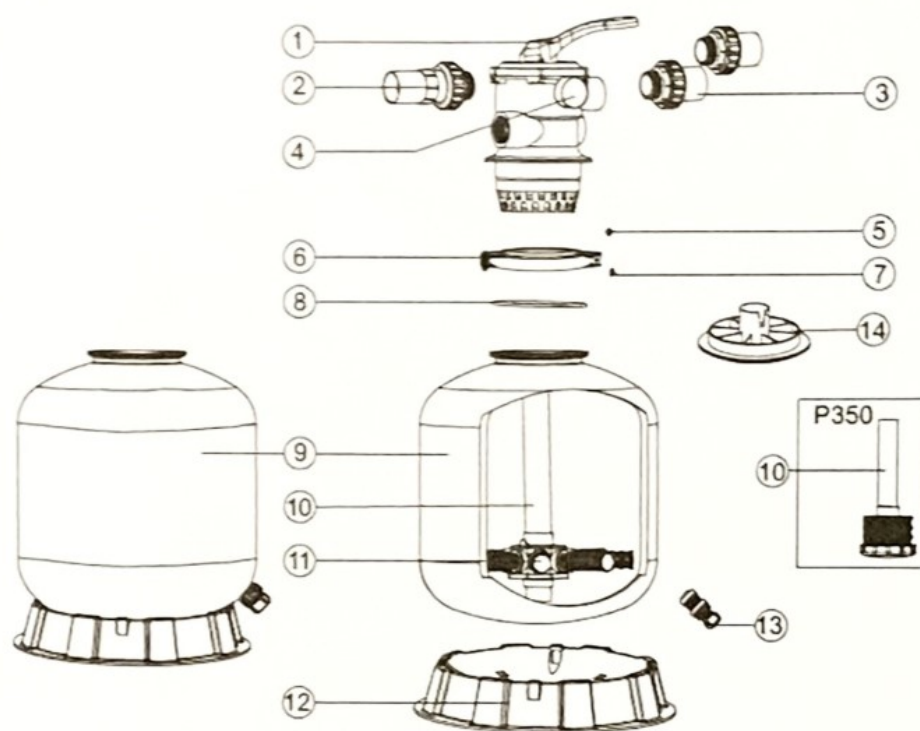

Fig. 2
- a) Insert the centre tube (10) in the vessel and install the drain tubes (11), if not factory-installed. Place the centre tube in the centre of the vessel bottom. Close the top hole in the tube with the lid (14) or a suitable end cap to prevent sand entering it. **Before filling the vessel with sand, make sure all the drain tubes (11) are firmly installed.**
- b) For better distribution of the filter sand, first fill about a third of the vessel with water. That will prevent excessive strain on the drain tubes when filling with sand. Before that, make sure the drain plug (13) is in place.
- d) Remove the lid (14) or end cap from the top opening.
- a) Clean the vessel flange. Take the valve (1), mount the gasket (8) on it, smear the gasket lightly with grease, and mount it on the vessel flange. Turn the valve so that the valve hole marked "PUMP" (P) faces the pump.
- b) Put the clamp (6) on the flange-valve joint. Make sure the clamp sits properly all around the joint and then tighten it with the pair of bolts (7) and nuts (5). Tighten both threaded joints symmetrically.
- c) Remove the plastic bolt from the side of the valve body and screw the pressure gauge (4) into the hole. Tighten the pressure gauge carefully by hand, without forcing it.
5. Connect the pump to the valve opening marked "PUMP" (P); connect the return nozzle that sends water back into the swimming pool to the valve opening marked "RETURN" (R); connect the pump suction end with the swimming pool skimmer (S); and connect the waste pipeline to the valve opening marked "WASTE" (W). See Figures 2 and 3. When installing the threaded joints, seal them with a sufficient quantity of Teflon tape.
7. To prevent any water leakage from the vessel, make sure the drain plug (13) is in place.